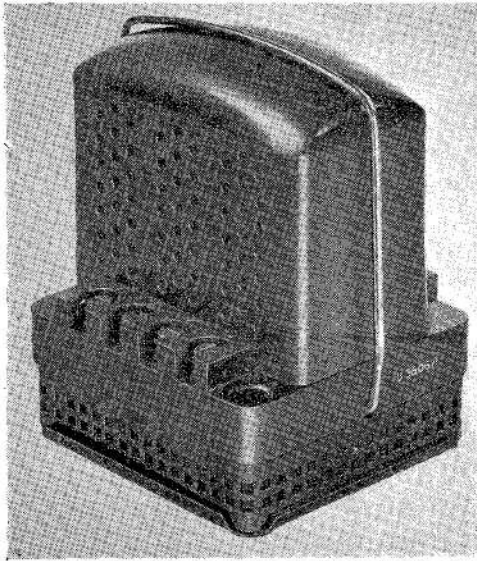

Fig. 1. General view of Type U3606/1
1. The unit (*fig. 1*) is designed for use on a 112-volt d.c. aircraft electrical system to initiate automatically the transfer of a single bus-bar load from its generator to a pair of paralleled generators and their bus-bar when the single generator voltage falls to a value of 94 ± 2 volts. The circuit also prevents the manual transfer of the single bus-bar from the paralleled generators until the single generator voltage rises to $102 \begin{smallmatrix} +3 \\ -2 \end{smallmatrix}$ volts. The unit therefore operates both as an under-speed and under voltage relay. A transistorized trigger circuit is employed and the current available at the output terminals is adequate for the operation of a standard 12-volt, 180-ohm relay such as that embodied in relay type F7401. Transient feedback is utilized to avoid nuisance tripping of the relay.